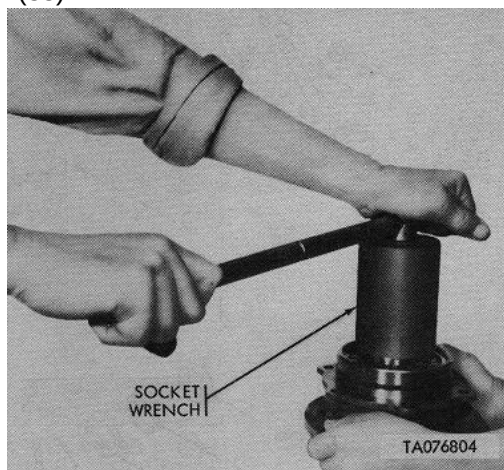

Figure 4-27. Bearing Cap - Retaining Nut Removal Using Socket Wrench
- (g) Remove spur gear (5) and spacer (35) from output shaft (25).
- (h) Remove six each capscrew (23) and flat washer (22). Separate bearing cap (27) and associated parts from housing (7).
- (i) Unscrew bearing nut (34) using socket wrench, special tool (44, fig. 1-2) (fig. 4-27). Remove bearing lockwasher (33).